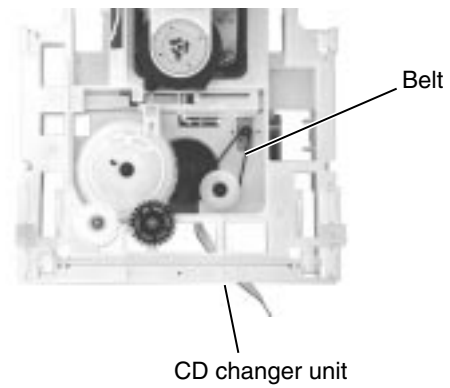

Fig.33
**■Removing the belt, the CD servo board and the switch board (See Fig.33 and 34)**
**Attention :** Solder is put up before the card wire is removed from the pick-up unit connector on the CD mechanism assembly. (Refer to Fig. 33)